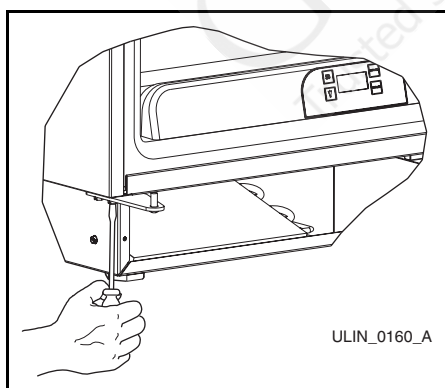

Figure 17
8. Install bottom hinge on cabinet, opposite side, aligning flat edge of hinge with outer edge of unit (**Figure 17**). Partially tighten screws.